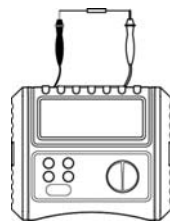

Figure 3
VIII. Testing for Continuity (See Figure 3)
- (1) Completely discharge the circuit to be tested before commencing any measurement. Ensure the circuit remains isolated from any power source during the test.
- (2) Insert red test lead/probe into red input terminal and black test lead to black input terminal.
- (3) Connect the red and black test leads/probe to the circuit under test.
- (4) Turn the rotary switch to 0 position, then press TEST button to begin. Refer to Figure 3 for details.